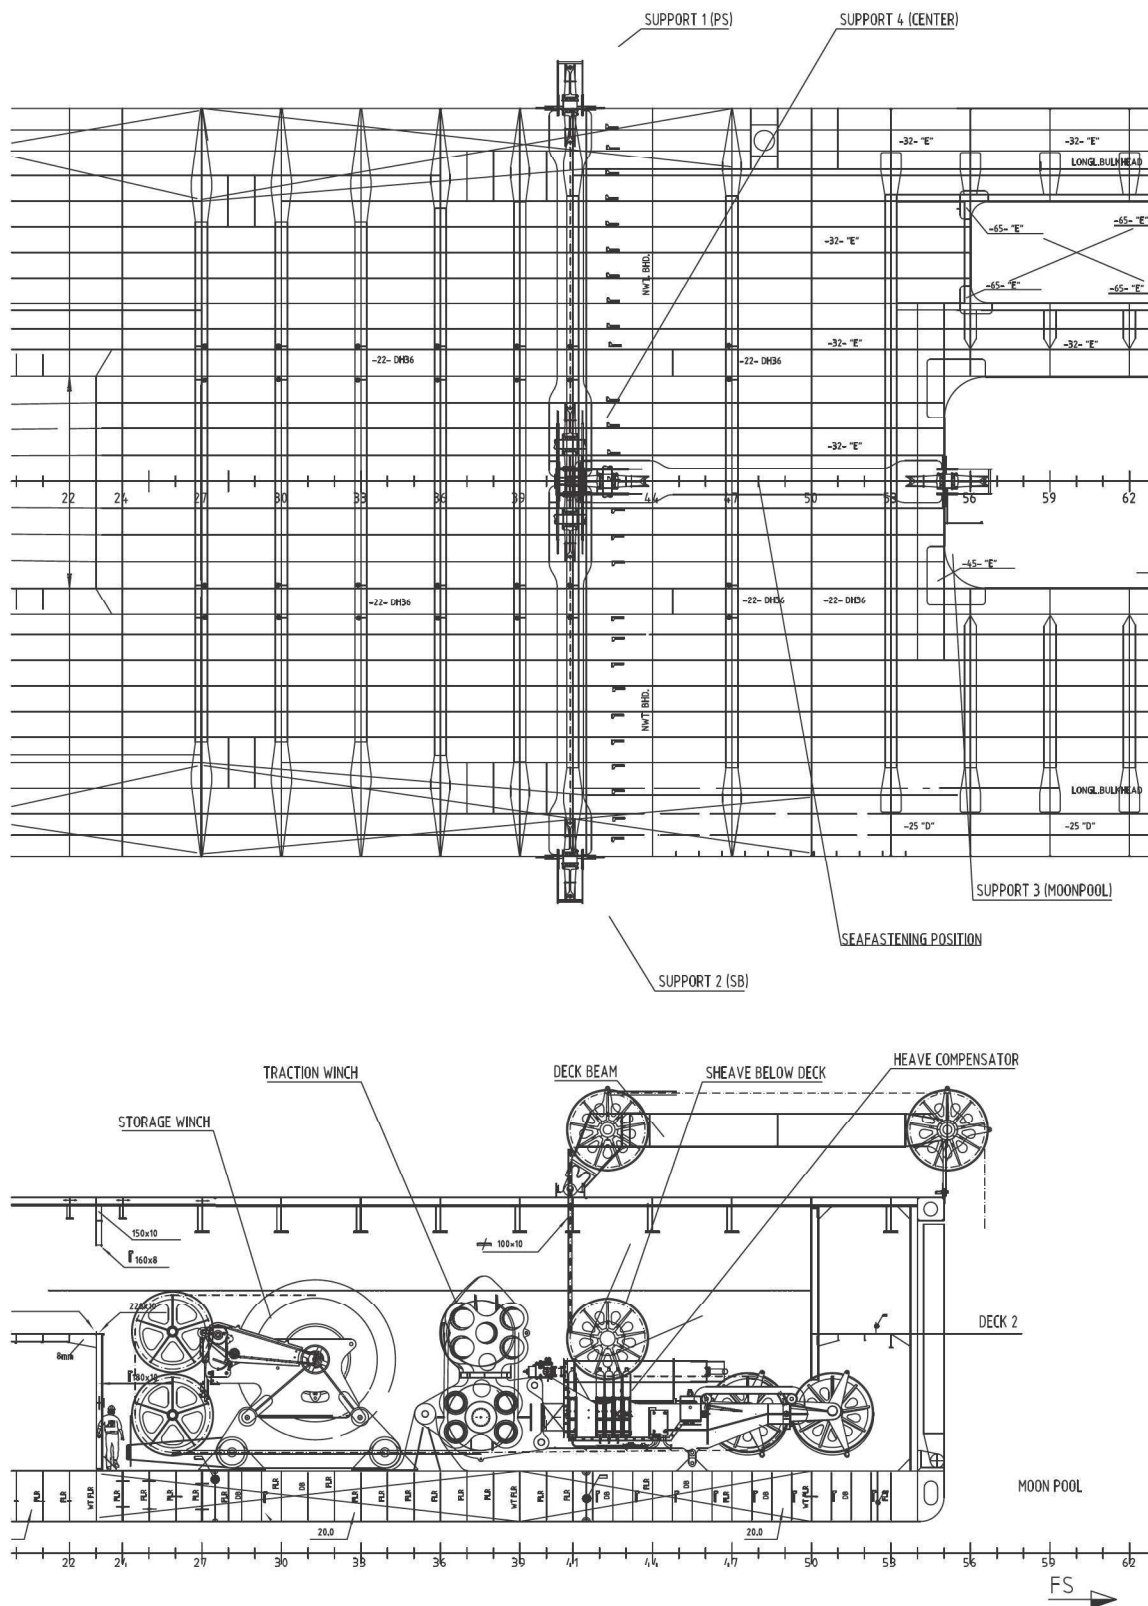

Figure 1-1: Overview 300t DWLS
- See Figure 1-1 for an overview of the 300t DWLS and the positions of its main components;